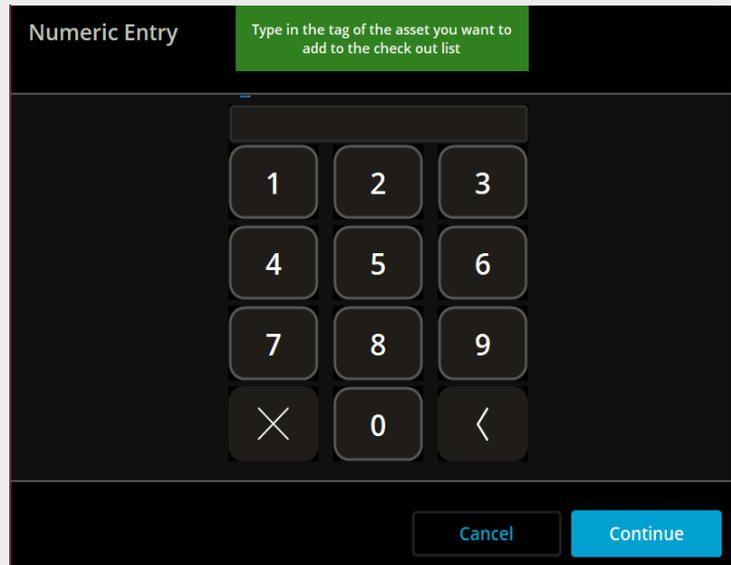

Fig. 58 – Numeric Entry screen
- 🔑 The screen changes to allow numeric entry, as shown in Fig. 58.